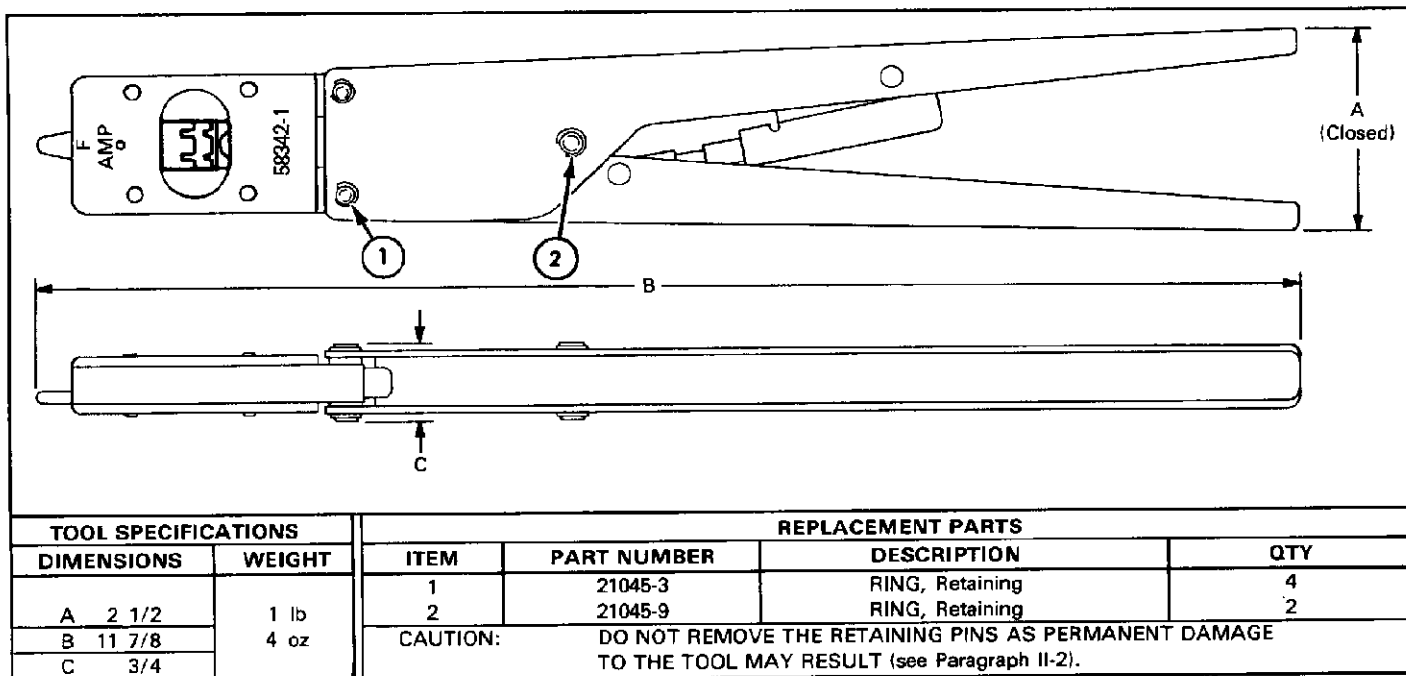

Fig. II-1
Customer-replaceable parts are listed in Figure II-1. A complete inventory should be stocked and controlled to prevent lost time when replacement of parts is necessary. When parts are needed, order by part number and description.
2. Make certain all retaining pins are in place and secured with retaining rings. If replacements are necessary, refer to parts listed in Figure II-1.
Parts other than those specified in Figure II-1 must be replaced by AMP to ensure quality and reliability of the tool. When repair is necessary, return the tool with a written description of the problem to: